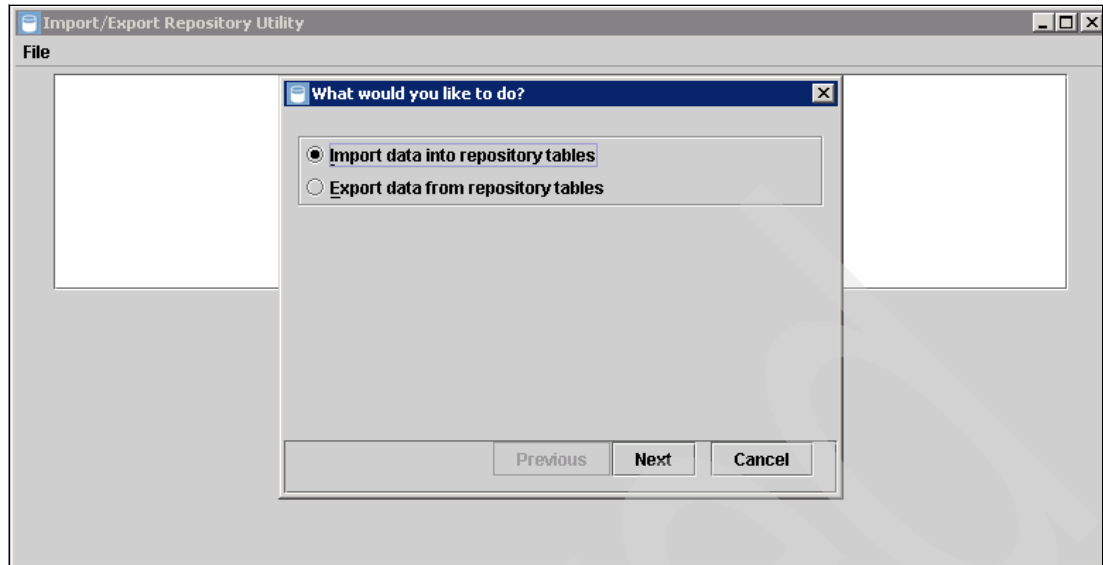

Figure 6-87 Select Import data from repository tables
2. Select **Import data into repository tables** (see Figure 6-87 on page 307).